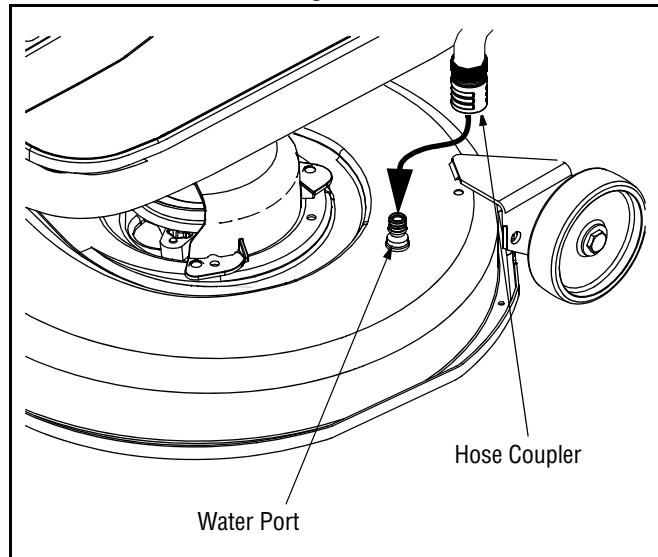

Figure 19
- Attach the hose coupler to the water port on your deck's surface. See Figure 19.